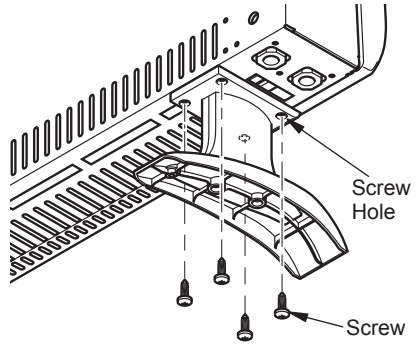

Figure 12 - Attaching Base Feet to Heater
4. Align four screw holes to the base of the heater and attach it by using Phillips head self tapping screws (provided) (see Figure 12).